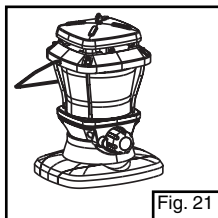

Fig. 21
- Lantern can be placed in base for secure storage. (Fig. 21)